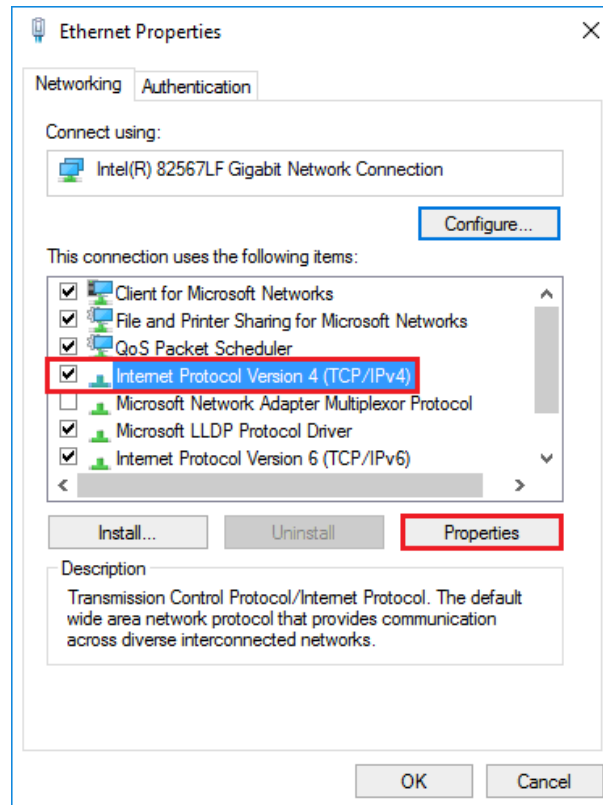

Figure 13: Internet Protocol Version 4 (TCP/IPv4)
4. Select “Internet Protocol Version 4 (TCP/IPv4)” and press “Properties” (see Fig. 13).